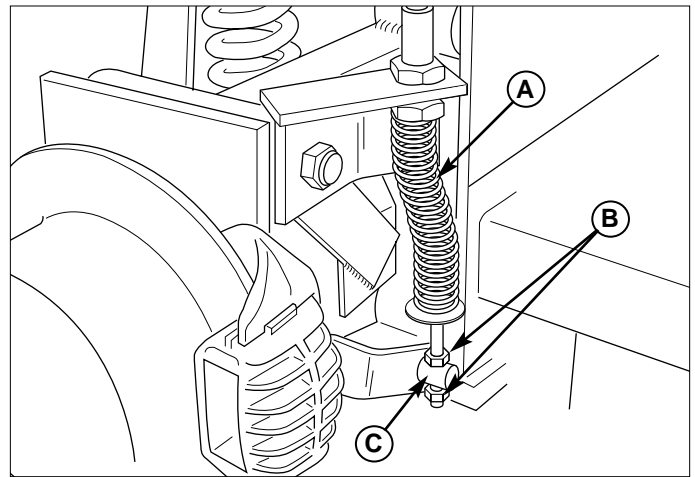

Figure 28. Parking Brake Adjustment
6. Locate the lower brake spring (A, Figure 28), adjustment nuts (B, Figure 28) and adjustment link (C, Figure 28).
7. Release the parking brake and turn the adjustment nuts to compress or release the upper spring. Lock the nuts against the adjustment link (C, Figure 28).